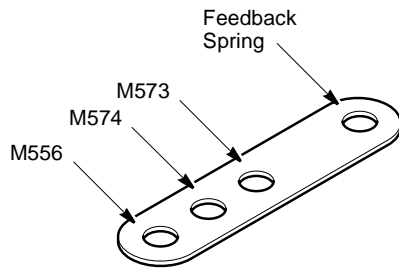
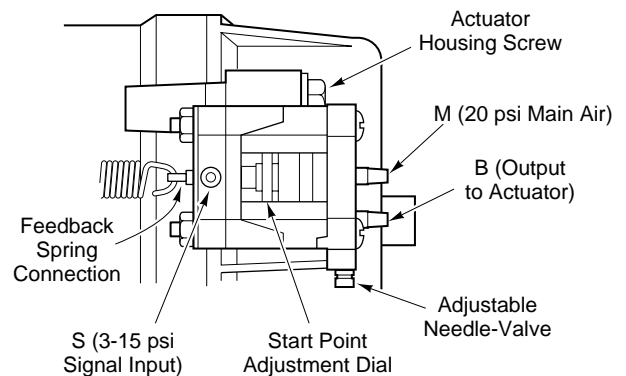

Figure-1 Feedback Arm.
Figure-2 Positioner Adjustment and Port Connections.
5. Align the holes in the feedback arm (Figure-1) and the shaft fitting.
7. Remove the appropriate spring from the kit. (Refer to Table-1 for selections.) Hook one end of the spring onto the positioner (Figure-2) and the other end into the spring hole in the end of the feedback arm (Figure-1).
Refer to Figure-2. The positioner requires a signal connection to "S" and a main air connection to "M". The positioner output, located above the needle-valve, is connected to the actuator signal port. Fittings are provided for 1/4 in. O.D. plastic tubing.
Refer to Figure-2. The signal pressure at which the actuator shaft begins to move is adjustable from 3 to 12 psig by rotating the recessed brass knurled dial in the center of the positioner.
Refer to Figure-2. The needle-valve allows the adjustment of the rate of actuator movement. With this needle-valve, the speed of the M556, M573, and M574 actuators may be adjusted with a small blade screwdriver, if required, to: